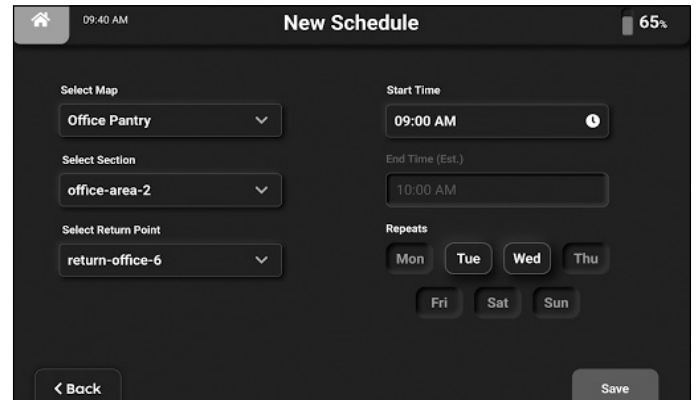

Figure 50
3. Press 'Select Map' dropdown menu, and choose an existing map (**Fig. 50**).
4. Press 'Select Section' dropdown menu and choose at least one existing section (**Fig. 50**).
5. Press 'Select Return Point' dropdown menu and choose a point that VP25 will return to when cleaning is complete (**Fig. 50**).
6. Press 'Start Time' and select a start time for schedule. Estimated finish time will be displayed in 'End Time (Est.)' (**Fig. 50**).
7. Press required days in 'Repeats' to schedule recurring cleaning operations for those days (**Fig. 50**).